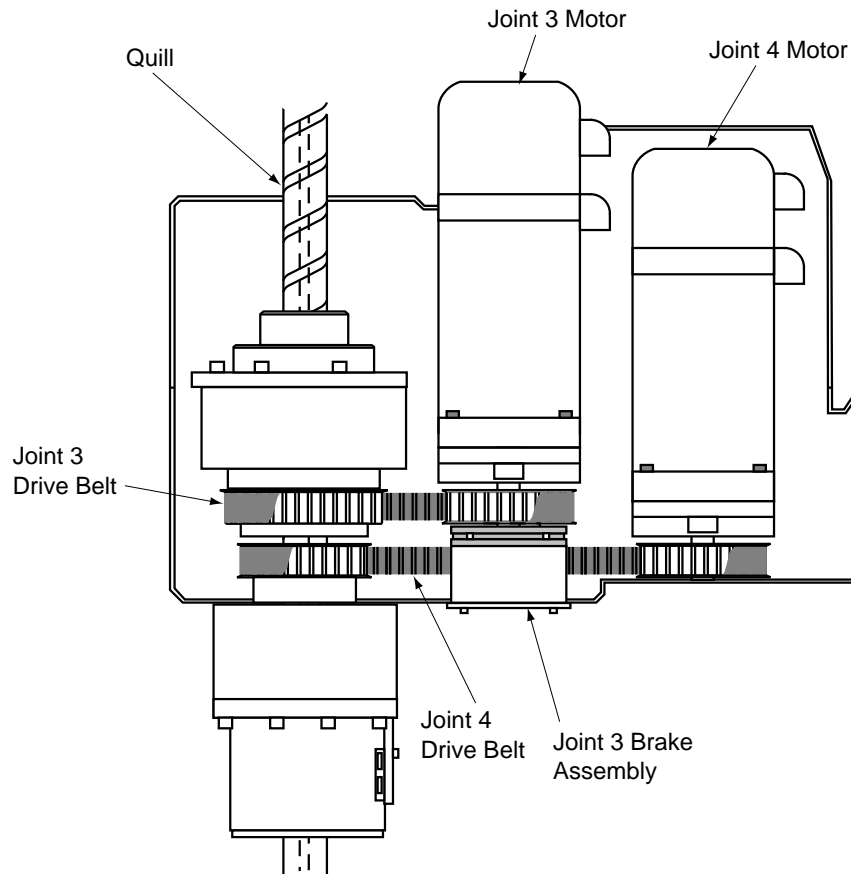

Figure 5-3. Location of Joint 3 and Joint 4 Drive Belts
4. Check the tension of the Joint 3 and Joint 4 drive belts with your fingers. See Figure 5-3. The belts should feel tight to the touch. If there is any noticeable looseness, call Adept Customer Service.